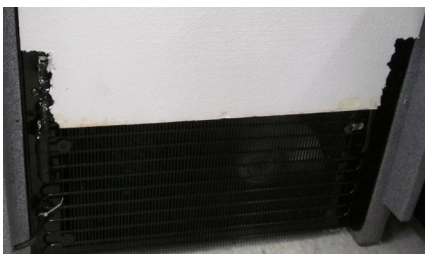

Figure 31: Install the insulation panel
- c. Install foam panel on the refrigeration module, taking precautions not to damage the foam around the tubing (Figure 31).